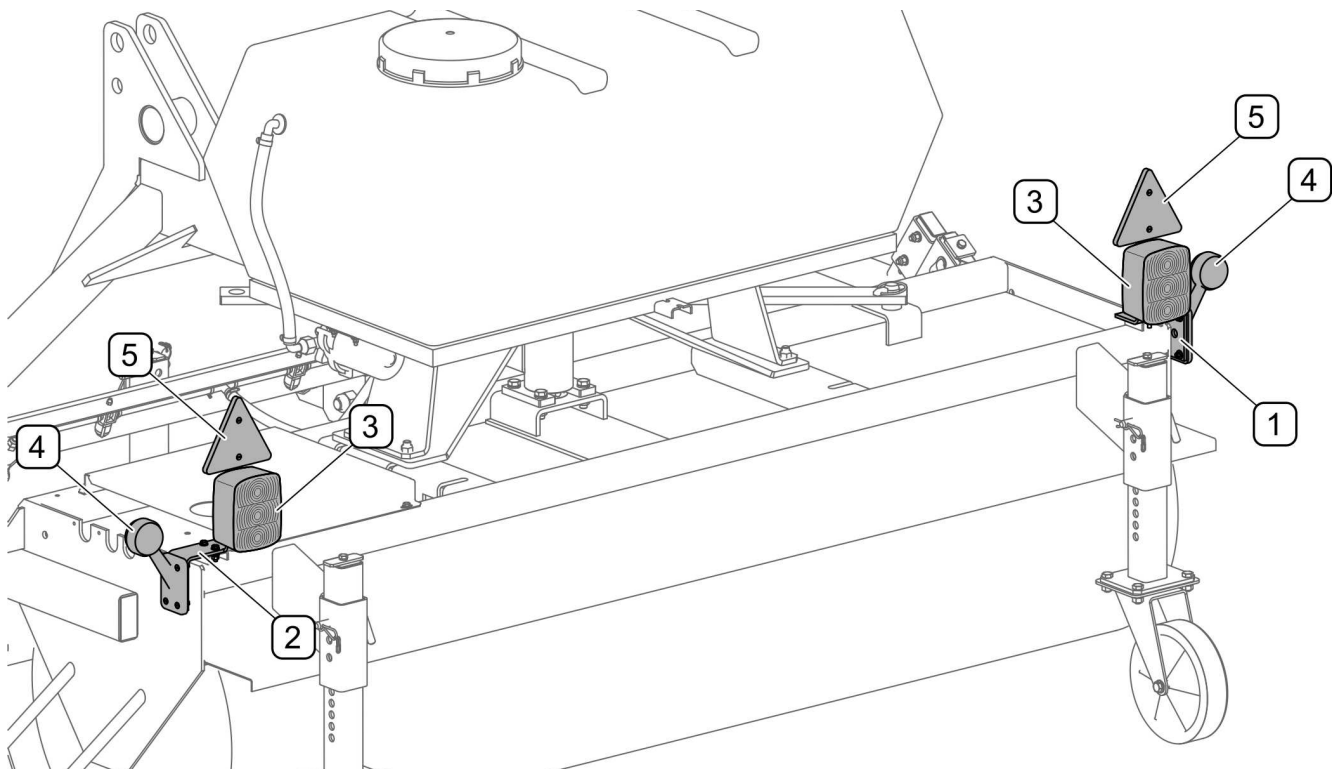

FIG. 4.12 Additional lighting installed on the sweeper rear (optional)
(1)- bracket; (2)- slow-moving vehicle warning sign (not included in the machine equipment)
- If the sweeper obscures tractor lights then install additional lighting (FIG. 4.12) mounted on the sweeper rear (available as an option).